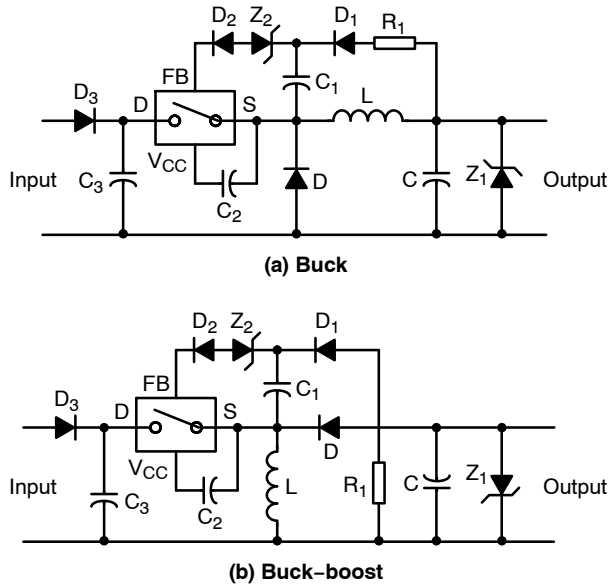

Figure 2. Proposed Circuit Using NCP1052
Figure 2 shows the proposed buck and buck-boost converters. The rectifier circuit, which consists of capacitor C_3 and diode D_3 , is in the front end for AC or DC input voltage. Then, the NCP1052 is self-powered up from the rectified input voltage directly with a V_{CC} capacitor C_2 . When the switch inside the IC is opened, there is a voltage across Drain (D) and Source (S) pins of the IC. If this voltage is greater than 20 V, an internal current source $I_{start} = 6.3$ mA (typ.) inside the IC charges up C_2 and a voltage in C_2 is built up for the operation of the IC. Comparing to the switching
If there is no load, the IC will automatically minimize its duty cycle to the minimum value but the output voltage is still possible to be very high because there is no passive component in the circuit try to absorb the energy. As a result, output voltage will rise up dramatically and burn the output capacitor eventually. Hence, a zener diode Z_1 or minimum “dummy” load resistor is needed to consume the minimum amount of energy as shown in Figure 2. It is also noted that when R_1 pulls up the output voltage at a given output current condition, the output voltages at lower output current conditions are also pulled up. Hence, the clamping zener diode Z_1 is needed to be with the breakdown voltage as same as the output voltage but it will reduce some of the efficiency at lower output current conditions.
As shown in Figure 10, a 2 inch by 1.5 inch small surface-mount demo board of 12 V / 100 mA buck is presented. The design is made on a single-sided board. The bill of material is shown in Table 2. The component symbols are those in Figure 2. In order to have sufficient startup ability, the V_{CC} capacitor is 6.8 μ F which gives a 3.4 ms fault sampling time. Because of this feature, the circuit enters fault mode when output current exceeds 200mA after startup as shown in Figure 11(b). The efficiency of the circuit is typically 65% at 100 mA.